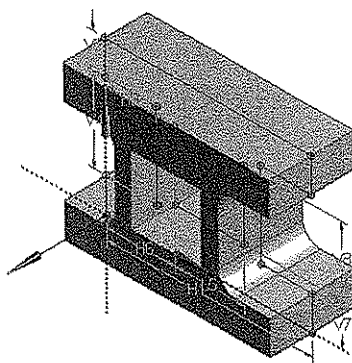

Figure 3-37 Resulting base feature
- 5. Choose the **Generate** tool from the **Features** toolbar; the base feature is created with the specified settings, refer to Figure 3-37. Also, the thunderbolt symbol is changed to green tick mark indicating that the feature is updated.